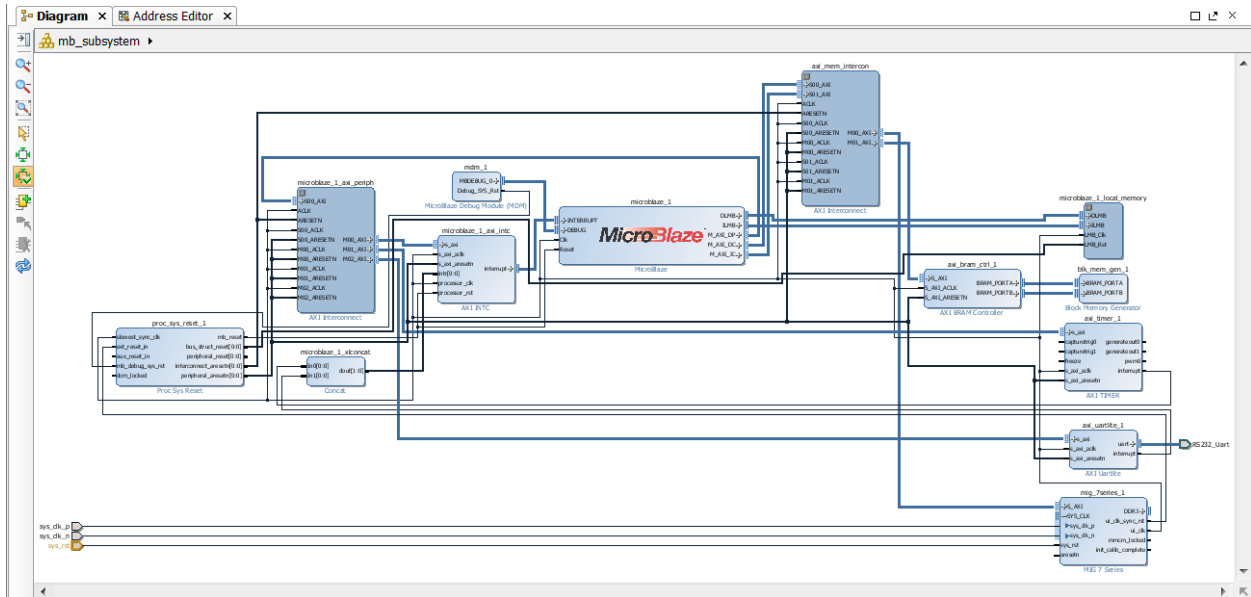

Figure 123: Regenerate IP Integrator View
10. In the IP integrator tool, click the **Regenerate** button. The IP integrator canvas looks like Figure 123.